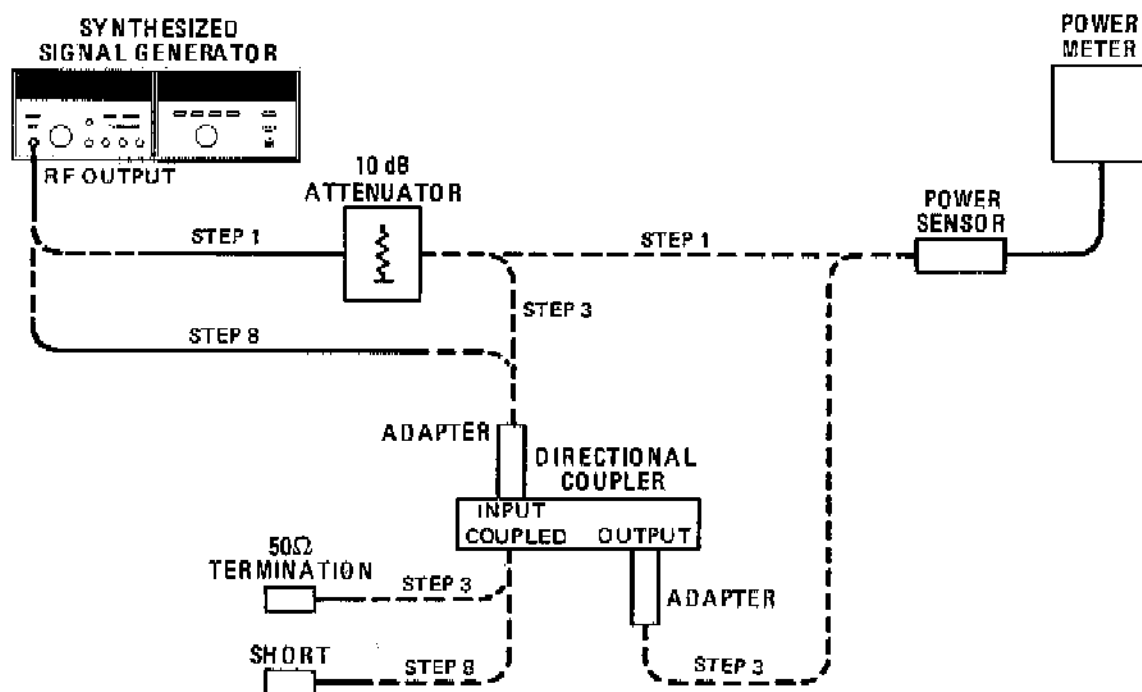

Figure 4-2. SWR Test Setup
1. Set Synthesizer's controls for an output of 3 GHz at -12 dBm, connect the 10 dB attenuator to Synthesizer's RF OUTPUT connector and measure the power output with the power meter. See Figure 4-2, Step 1.
3. Connect the equipment as shown in Figure 4-2 (step 3).
8. Connect equipment as shown in Figure 4-2 (step 8).